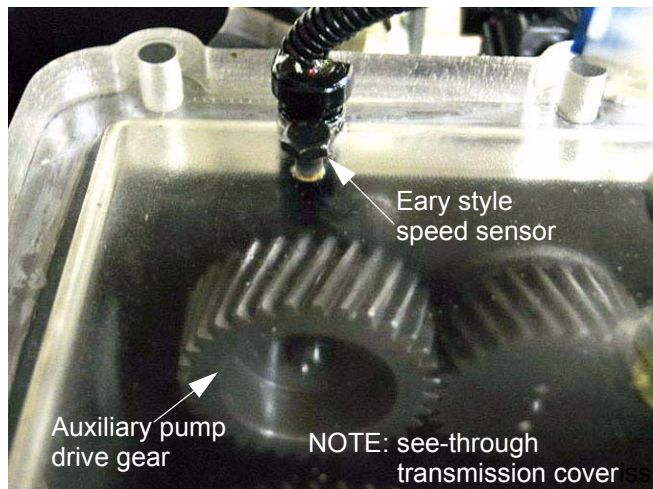

Figure 6.7
- 6.7. If the tractor has a speed sensor mounted in the transmission cover, it is a hall effect device that employs the auxiliary pump drive gear as a tone-ring to generate a tachometer signal. This was done on early (2003 production) tractors. See Figure 6.7.